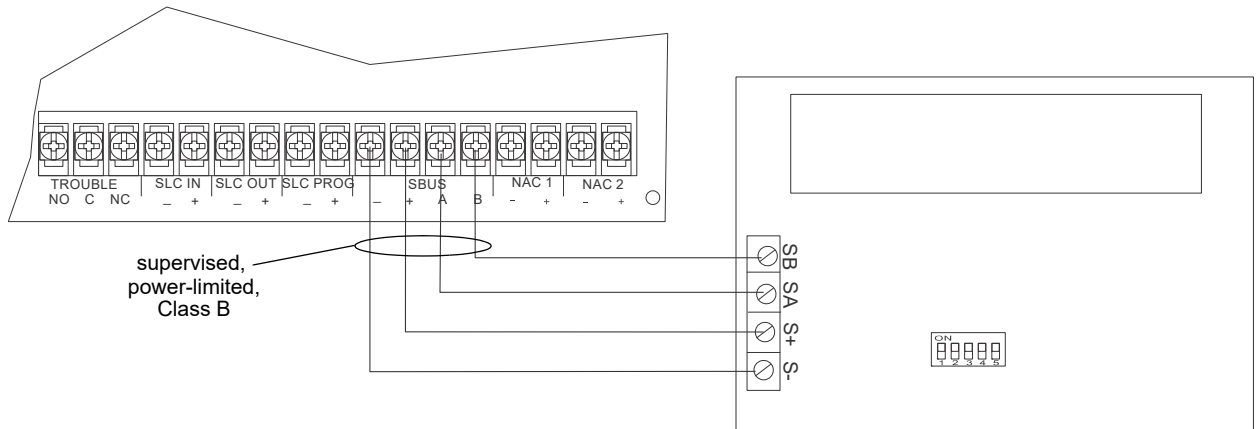

Figure 4.27 RA-2000 Connection to the Panel
3. Wire the annunciator board to the main control panel as shown in Figure 4.27.
7. Run wires to the control panel. Refer to Figure 4.27.